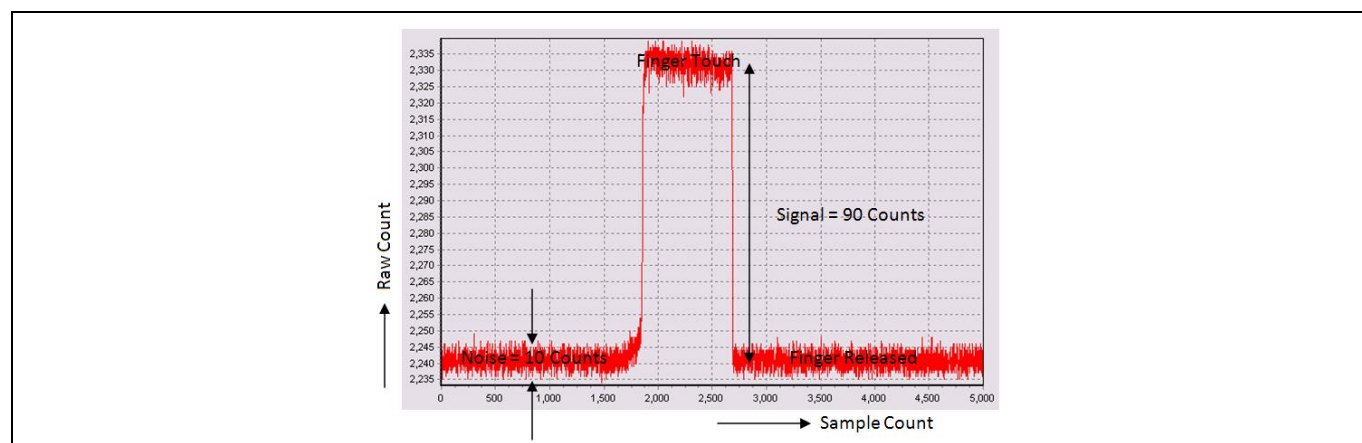

Figure 66 Raw count graph for a typical sensor with a finger touch
2. Set the sensitivity level to Low(0.4 pF), and calculate the SNR. Figure 66 shows a typical raw count graph with a finger touch. Adjust the sensitivity level until SNR is more than 5:1 and less than 10:1.